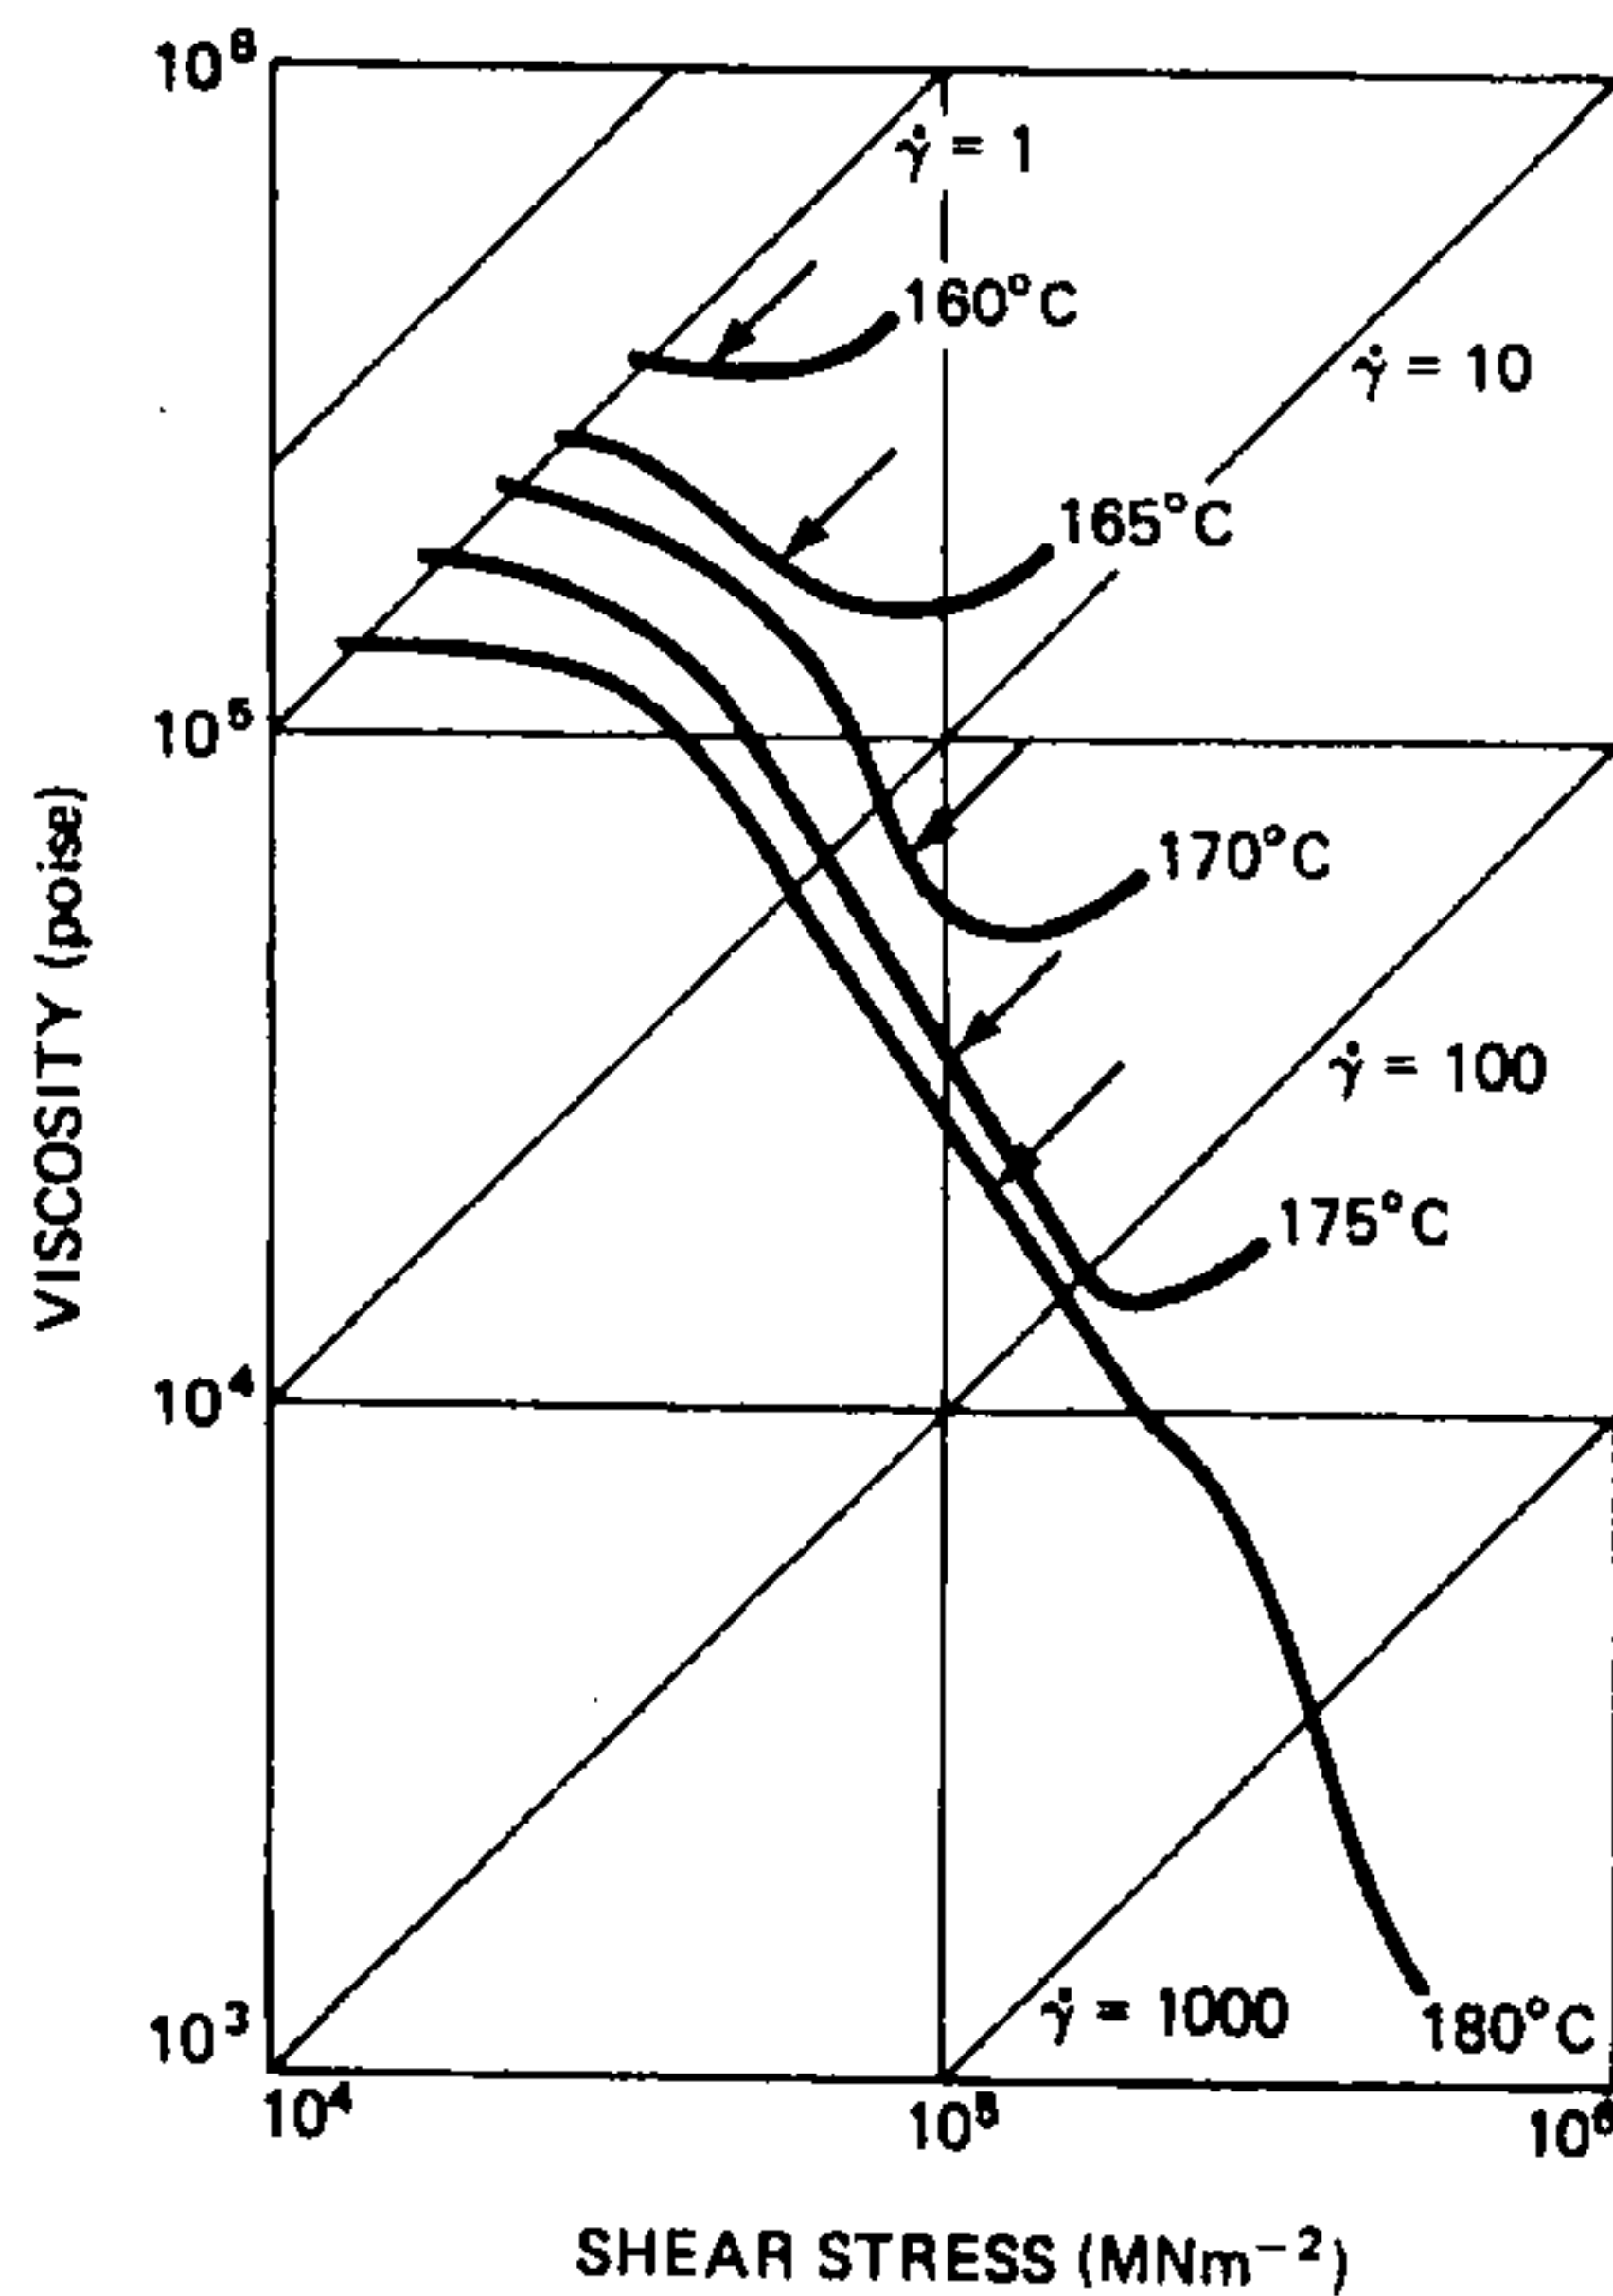

Figure 2 - Apparent viscosity-shear stress relationship for polypropylene at various temperatures
- [b] Figure 2 shows apparent viscosity – shear stress relationship for polypropylene (PP) at various temperatures.